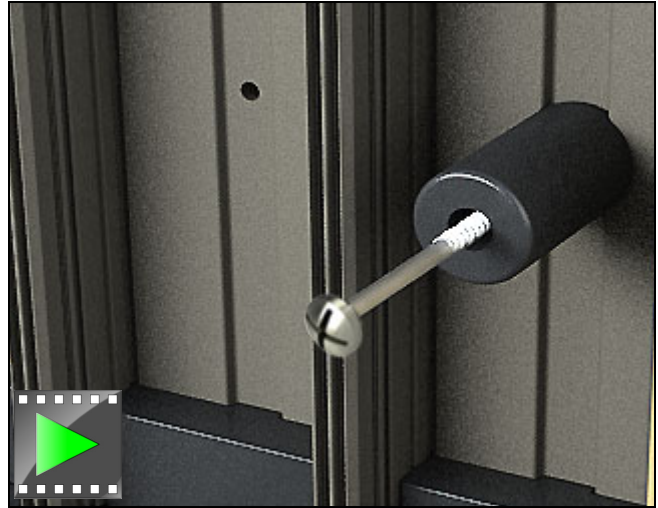

Figure 96
7. Install pocket bumpers on exterior most track through the top and bottom installation holes using #8 x 3" black installation screws. See figure 96. *Note: If installation screws are already in place, remove and insert bumper using same screw.*